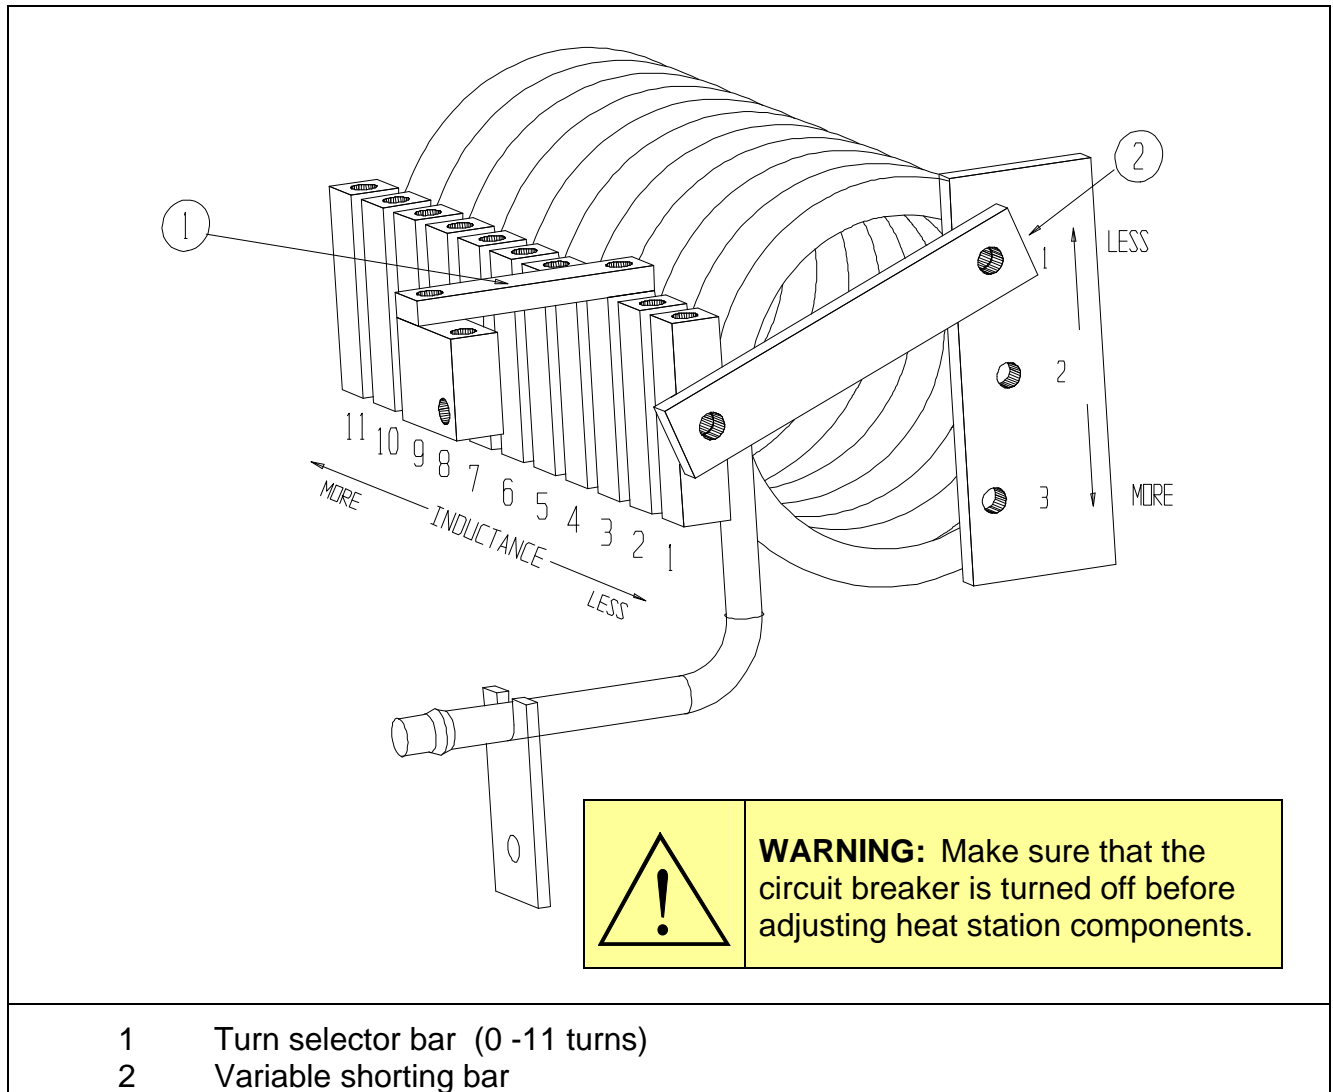

Figure 4: Adjusting the Series Inductor
The turn selector bar is identified by ① in Figure 4 on page 18. For the initial setup (section 6.2 on page 15) this is the only bar that is used and should be screwed onto the correct set of tabs to select the desired number of turns on the series inductor. The near position selects zero
turns and the far position eleven turns, as indicated in Figure 4 on page 18. Tighten the bar into position using the mounting screws.